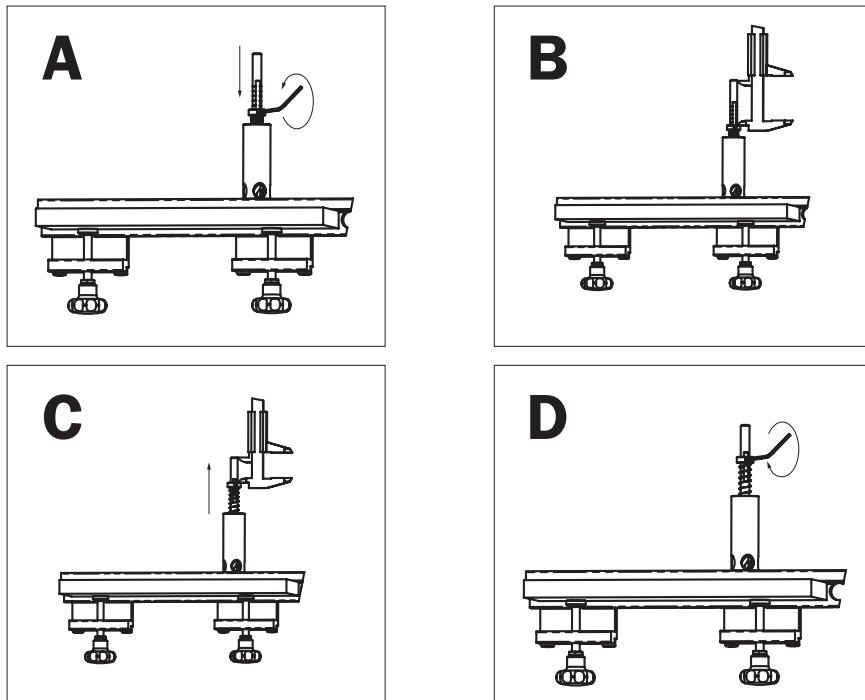

Fig. 3
Setting procedure is shown in (Fig. 3). Tighten the work piece to the system. Insert the chuck adaptor in the 18mm diameter hole so that, after pressing on the shank, the point of the drill bit touches the work piece. Loosen the adjustment ring screw (a hex key 2 is included in the CMT400-1 and CMT400-2 kit) and press the ring towards the drill until the spring is entirely compressed (Fig. 3A).